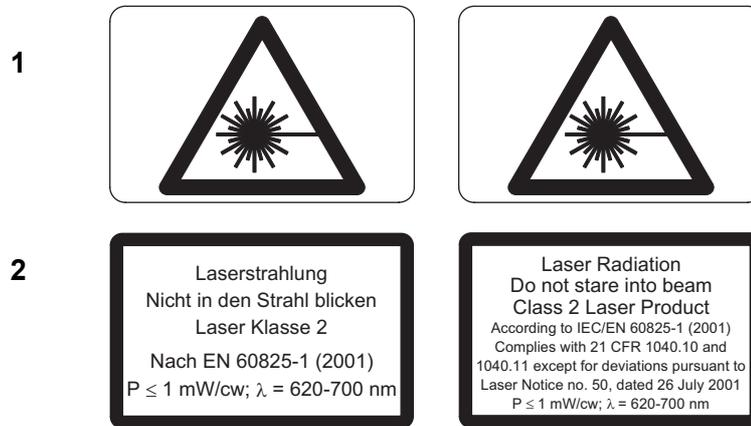

Figure 1.1: Laser warning labels for the PDV
The laser warning labels for the PDV are shown in figure 1.1. In the countries of the European Union (EU), label 2 is affixed in the national language of the customer.